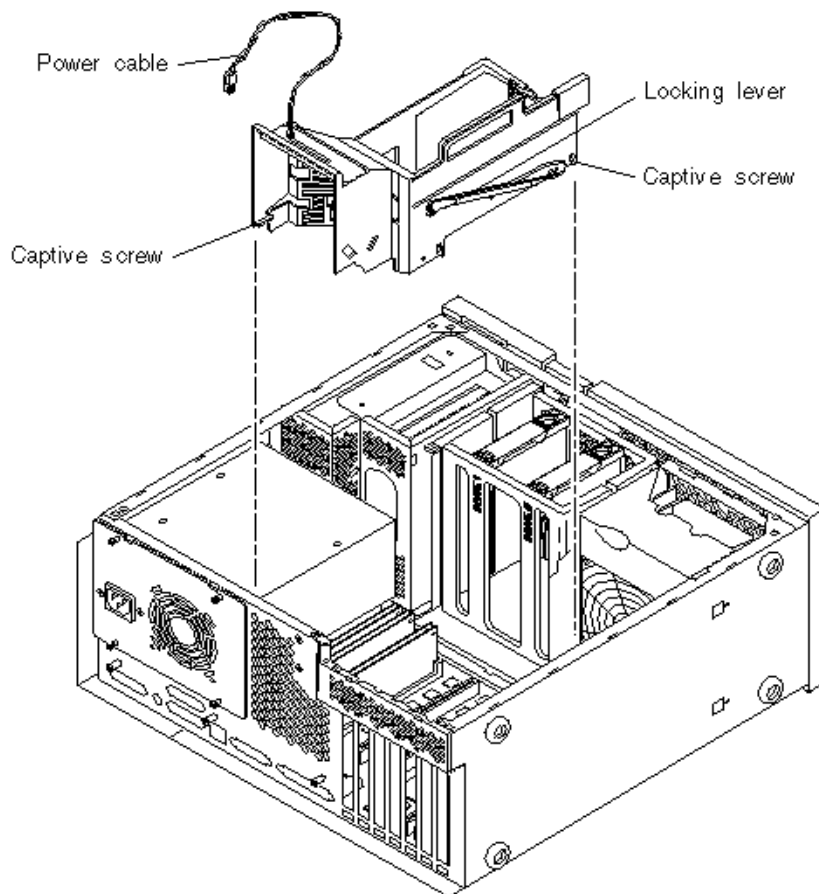

Figure 8-11 Removing and Replacing the Shroud Assembly
5. Disconnect the shroud assembly as follows (Figure 8-11):
2. Connect the shroud assembly as follows (Figure 8-11):